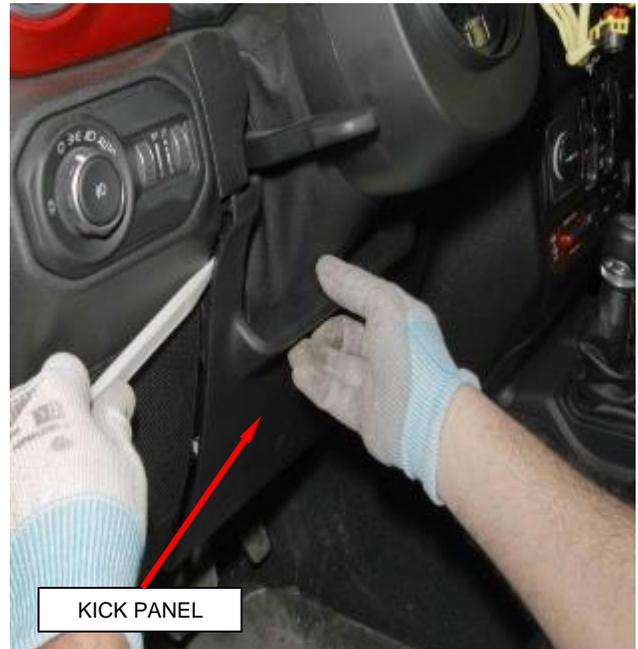

Figure 23 – Kick Panel
6. Remove the steering column kick panel cover (Figure 23).